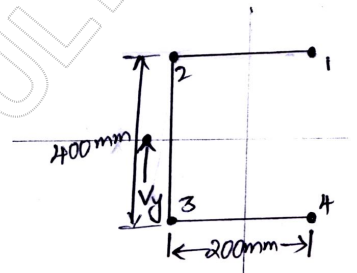

Fig.Q.4(a)
- b. Find the shear flow distribution for the Z-section as shown in Fig.Q.4(b), which is having constant thickness of 2mm.